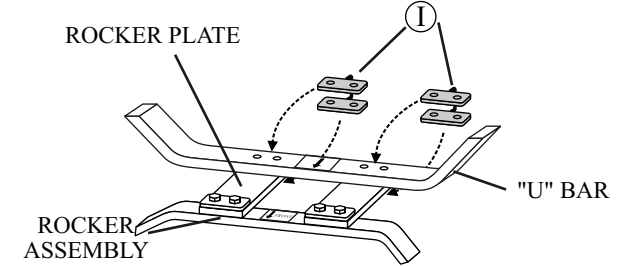
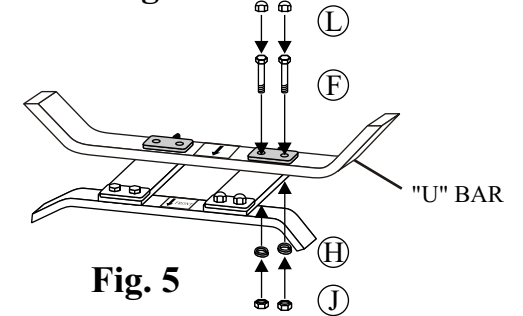

Fig. 4
Fig. 5
Step 6: Critical Step: The "U" metal plates must be installed in the proper location. Read this step and carefully examine. Adjust alignment of the holes of support bar and "U" bar. Insert a "U" metal plate as shown in Fig. 4. Then guide 5/16"x43mm bolts through the holes of "U" metal plate, "U" bar, and support bar from the top side of "U" metal plate. Add a Ø8.0 x 2.3 mm spring washer and a nut to each bolt as shown in Fig. 5. **Hand tighten only.** Repeat the same procedure on the other side.